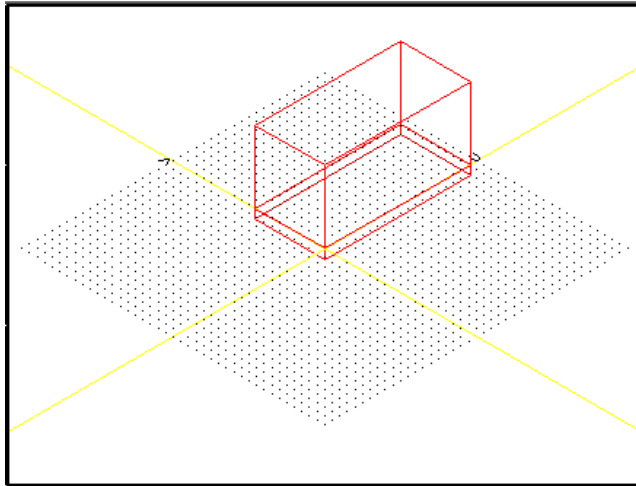

Figure 20 One-Half of the Dielectric and Air Box
- 6 When the Box Template is filled out to your satisfaction, click **OK**. The air box is drawn, as in Figure 20.